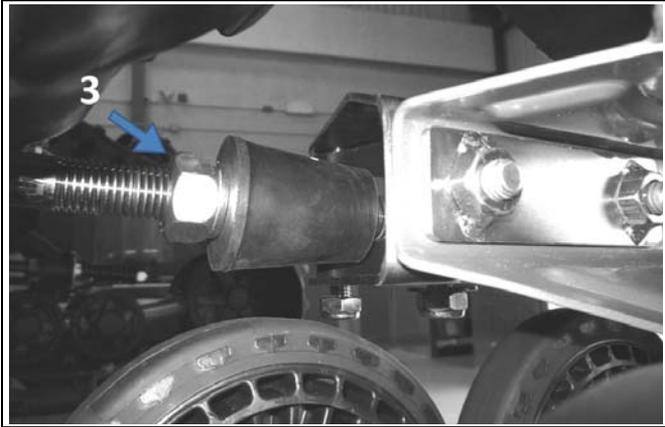

Figure 11
- Loosen nut (3) compressing the rubber cone of the stabilizing rod. The nut does not apply pressure on the rubber cone (refer to Figure 11).